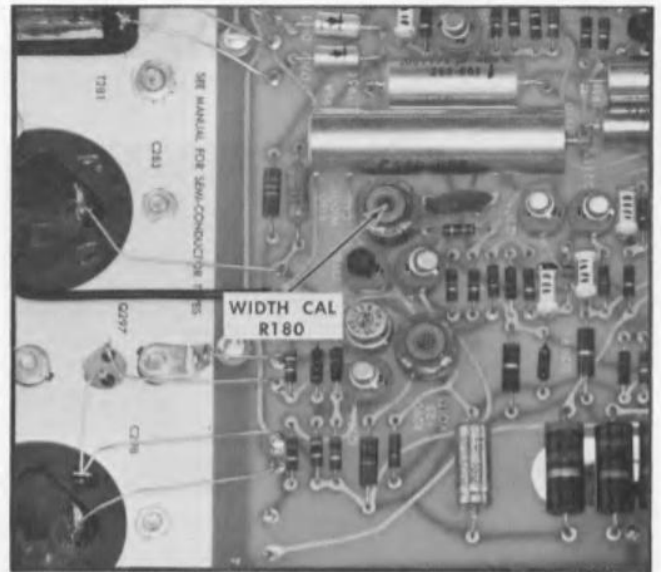

Fig. 4-13. Location of WIDTH CAL control R180.
- Adjust the WIDTH CAL control R180 (see Fig. 4-13) for a positive pulse width of 1 millisecond (ten 100 microsecond periods) using the time markers from the Type 180A as reference.